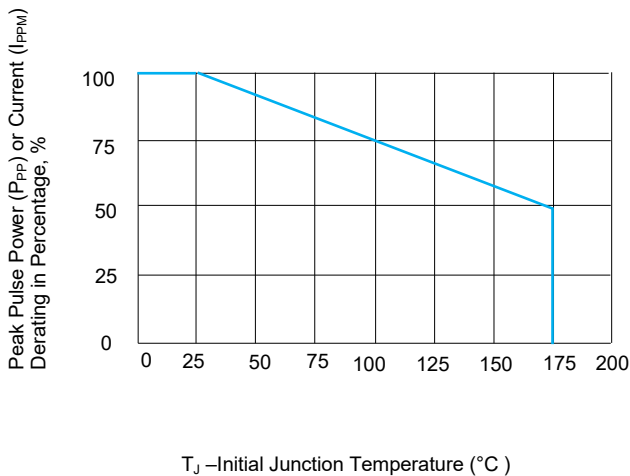
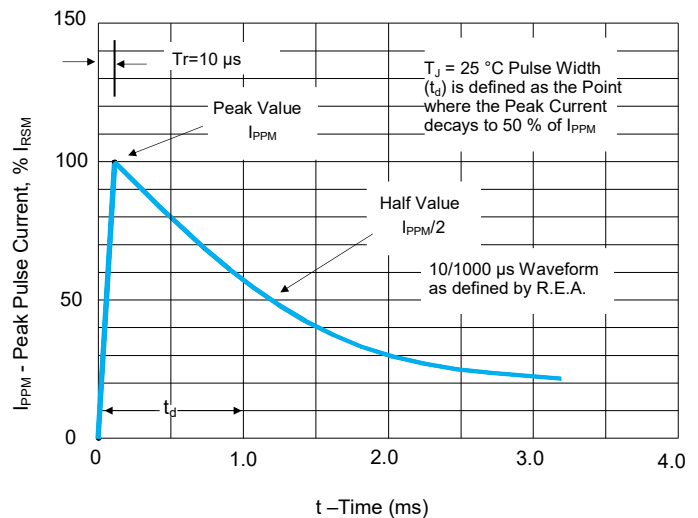

FIGURE 3 Peak Pulse Power Derating Curve
FIGURE 4 Pulse Waveform
1. Non-repetitive current pulse, per Fig. 4 and derated above T_J (initial)= $25\text{ }^\circ\text{C}$ per Fig. 3.